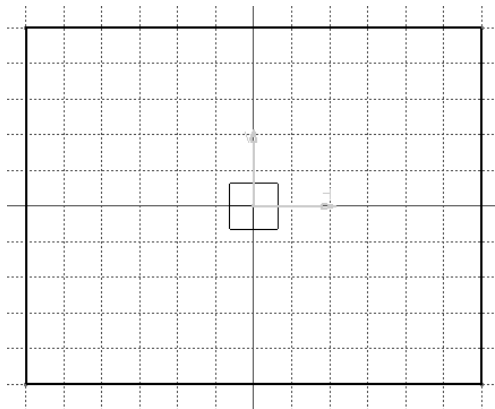

Figure 2-40 The outer loop of the sketch
- Draw the sketch of the model using the **Rectangle**, **Profile**, and **Circle** tools, refer to Figures 2-40 through 2-42.
3. Move the cursor to the location whose coordinates are 60,50 and specify the upper right corner of the rectangle. Figure 2-40 shows the outer loop of the sketch drawn using the **Rectangle** tool.